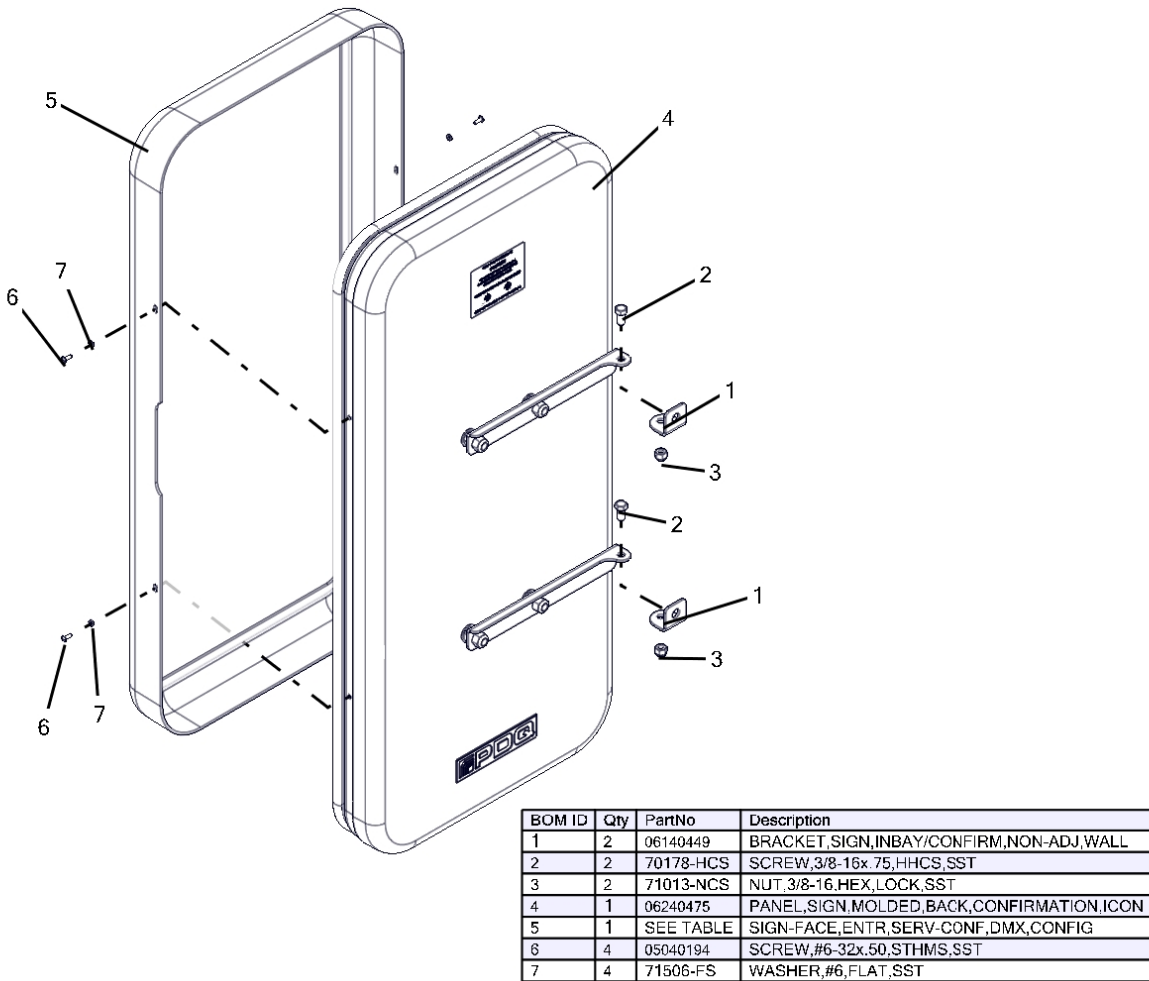

Figure 190 – Service Confirmation Sign
- The sign is built with the wall mount brackets oriented for mounting to the left wall of the wash bay. If it is necessary to mount the sign to the right wall, the brackets may be disassembled and flipped so that the mounting holes point in the proper direction for mounting to the right wall. When reassembling the brackets, always be sure the long brackets attached to the sign back are assembled on top of the smaller wall brackets, Figure 190.